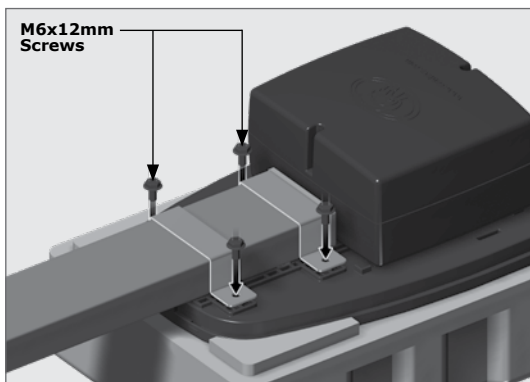

FIGURE 10
5. Secure the U-Brackets into position using 4x black M6x12mm screws supplied (Figure 10).